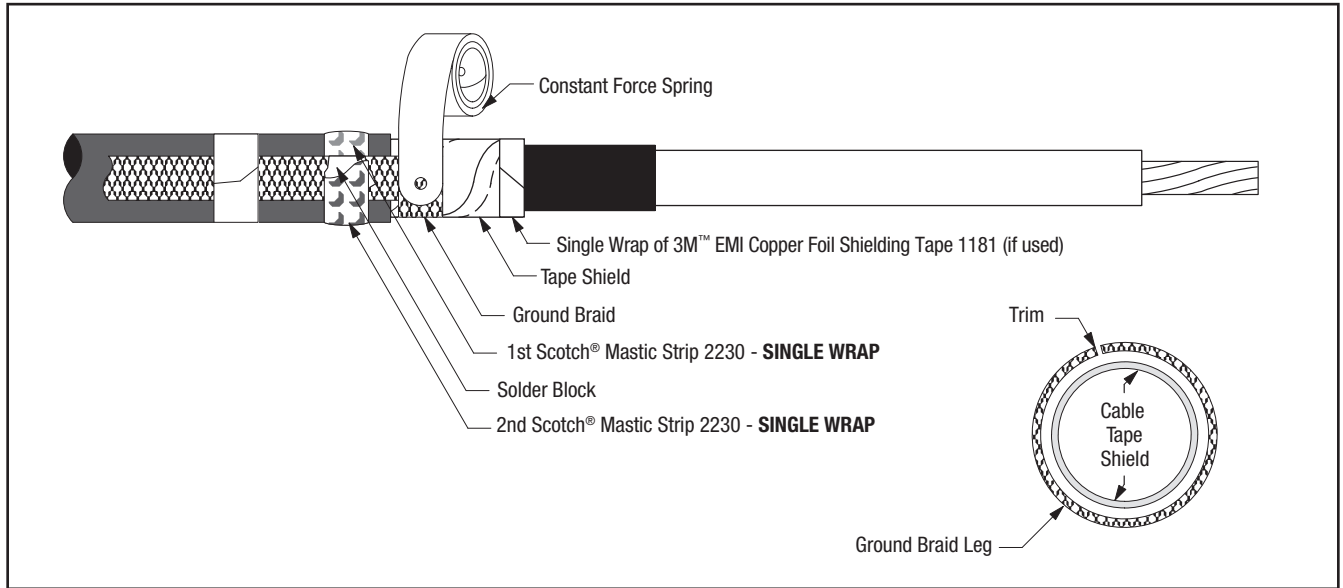

Figure 4
- 3.3 Wrap ground braid around cable tape shield one complete wrap, trim excess at approximately a 45 degree angle, and line up with the pre-bent 45 degree angle already on the ground braid, to prevent overlap. Secure in place with constant force spring. Wrap spring in same direction as ground braid (Figure 4). Cinch (tighten) the spring after wrapping the final winding.
3.4 Select second Scotch® Mastic Strip 2230 from kit and remove white release liners. Apply a second **SINGLE WRAP** of mastic over solder block on ground braid and previously applied mastic (Figure 4). Cut off excess.